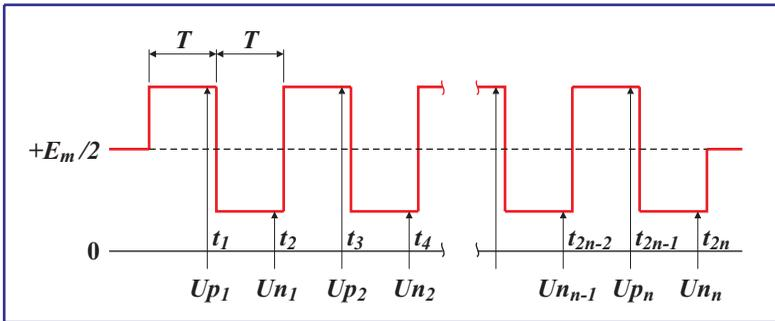

Fig. 4.3. Output signals of Instrumentation Amplifier at AC resistance measuring
In the no input signal state the output voltage of the Instrumentation Amplifier (IA) is equal to $E_m/2$, where $E_m = 4.096$ V (Fig. 4.3).
During AC resistance measuring the output voltage of the IA is sampled and measured by 12 bit ADC every time before I_m current reversing. The sampling points are marked as t_i in Fig. 4.3. The voltage drops on TE module when positive current (U_{p_i}) and negative current (U_{n_i}) are used for a TE module resistance (R) calculation under the following formula :